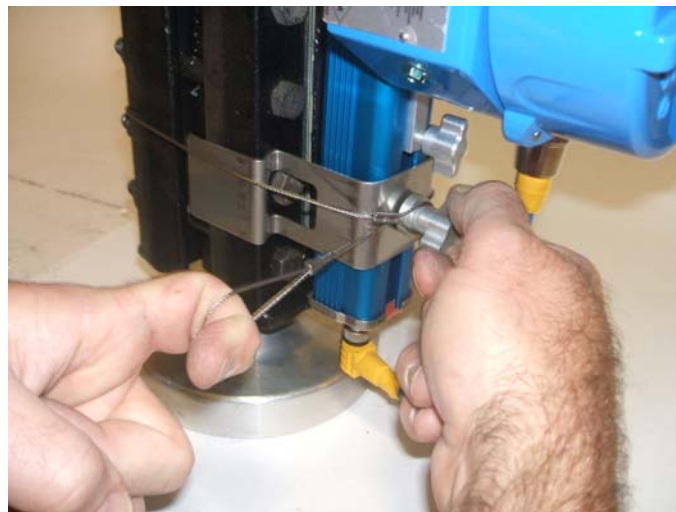

Figure 6
**Step 4:** Align bottom bracket, using the 2nd bolt if possible. Wrap thumb nut end of the cable around the entire gauge and begin to thread. Pull the cable loop as tight as possible and fully tighten the thumb nut down as shown in Figure 6. The lower bracket should now be tight and secure.